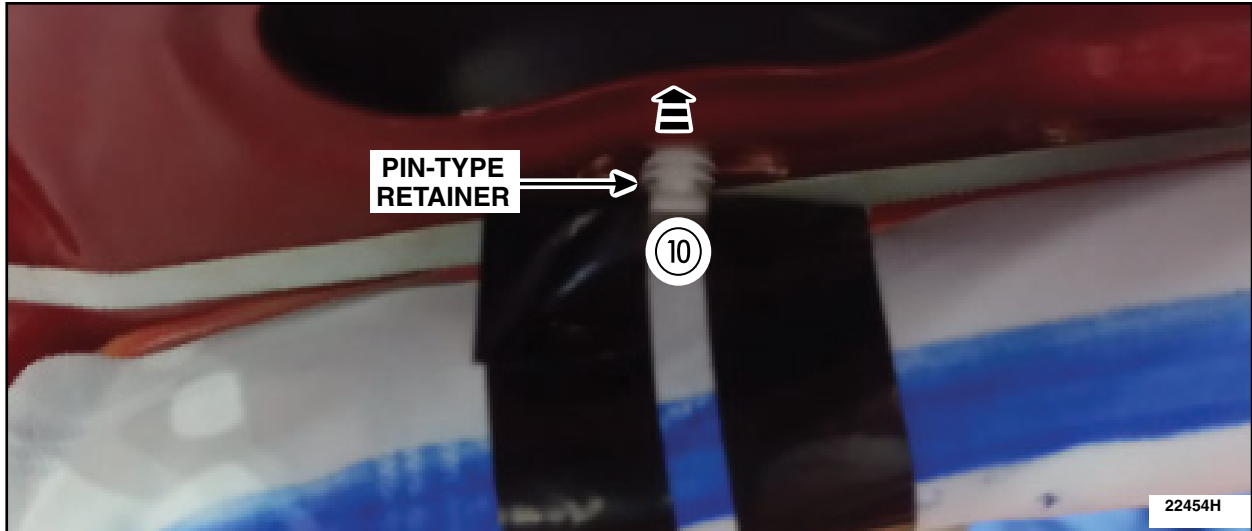

FIGURE 30
32. Attach the *new* side curtain airbag pin-type retainer. See Figure 30.